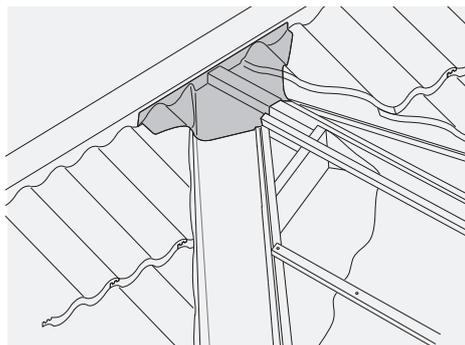

Fig. 33 – Saddle at ridge/roof/valley intersection
- 2 Saddles should be capable of being readily dressed down when in position (Figs. 33 and 34).